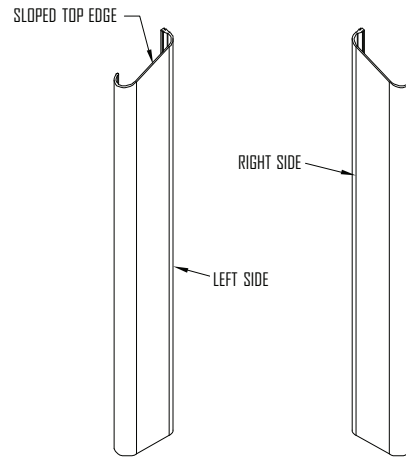

FIG.18
a. Identify left and right hooks (top ends are sloped) (Fig. 18).